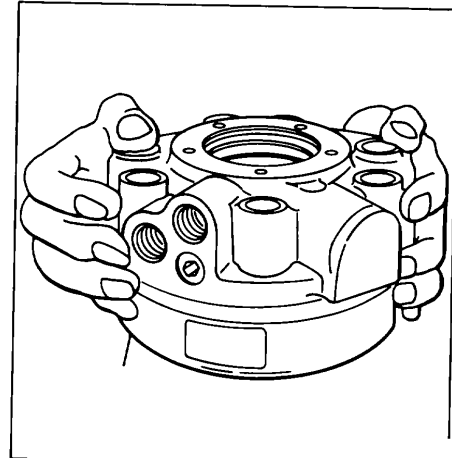

Figure 192.
5. Remove six hex bolts (45) and lock washers (37). Lift cover (4) from housing (3). If the motor cover should stick to housing, jar it loose with a soft-faced hammer. Remove gasket (53) from housing (3) or cover face (4). See Fig 192.